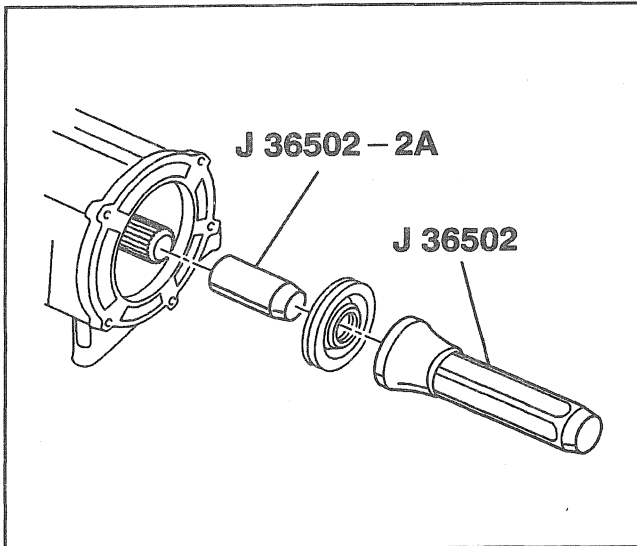

Figure 8—Extension Oil Seal Installation (4WD Models)
Install or Connect (Figure 8)
1. New seal, using J 36502-1 (Figure 8).